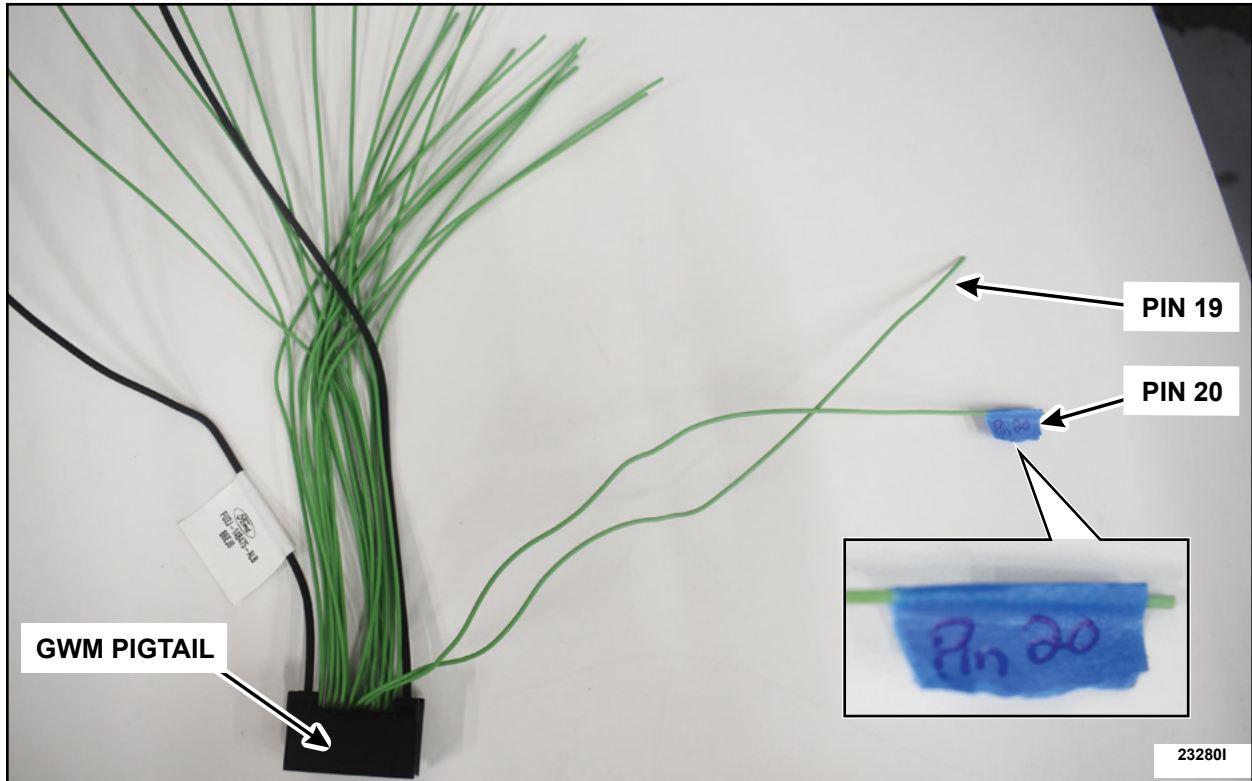

FIGURE 6
11. Identify Pin 19 and 20 on the GWM pigtail. Mark one of the wires using a piece of tape. See Figure 6.